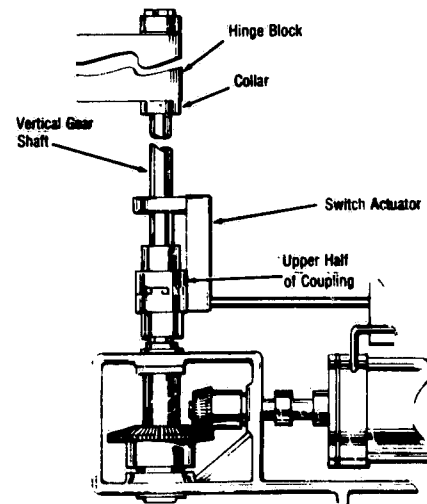

Figure 7-7. HINGE DRIVE ASSEMBLY.
NOTE: Refer to Figure 7-7 for location of hinge-drive parts.
9. Replace vertical gear shaft and assemble hinge-drive assembly (see Figure 7-7). Set limit switches for and repeat step 6. Perform this procedure for the three-quarter and full settings of the rheostat.